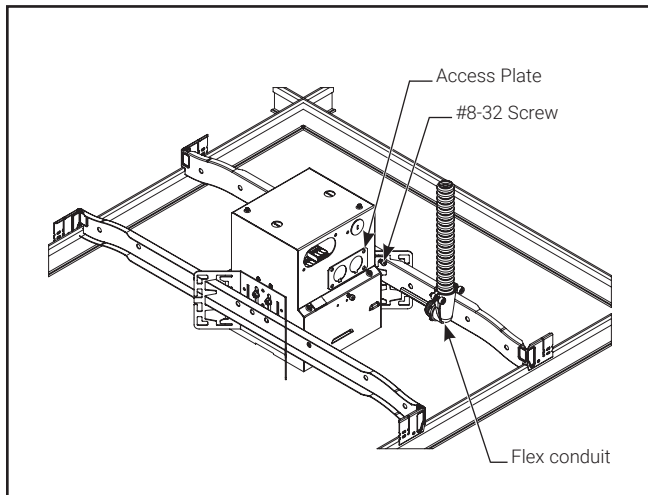

Figure 3.
- Remove 1/2" knockout in access plate. (Figure 3)